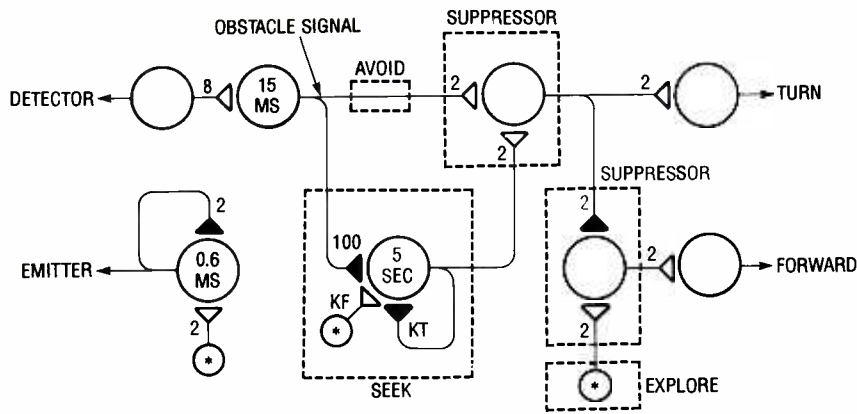

Fig. 7. The robot's 4-behavior activity can be emulated using 11 neurons. Can you find the two oscillators here? (Hint: look for feedback loops).
**The Neural Network.** The total collection of behaviors required for Muramator can be emulated by a network of 11 neurons as shown in Fig. 7. For motor control, the robot's brain has one neuron that drives the robot forward and another that causes it to turn. That makes the explore behavior easy to implement: a continuously active neuron provides input to the "forward" neuron. The activity of the avoid behavior is also simple: it just activates the "turn" neuron when the robot "sees" something. That is particularly easy since the appropriate obstacle-detection signal is directly available at the output of the neuron labeled "15 ms" (to be described later).
the top "suppressor" neuron back in Fig. 7, as we mentioned earlier. Because both the obstacle detector and central oscillator have active-low outputs, these diodes form a logical OR gate. If the creature either sees something (LED2 turns on) or the turn timer kicks in (LED3 turns on), the relay will be activated and the creature will turn in place. The switch labelled "level" was installed to selectively disable the seek oscillator. That lets you investigate how the creature acts without this behavior. Of course the robot won't do anything at all unless its built, so let's get to that now.